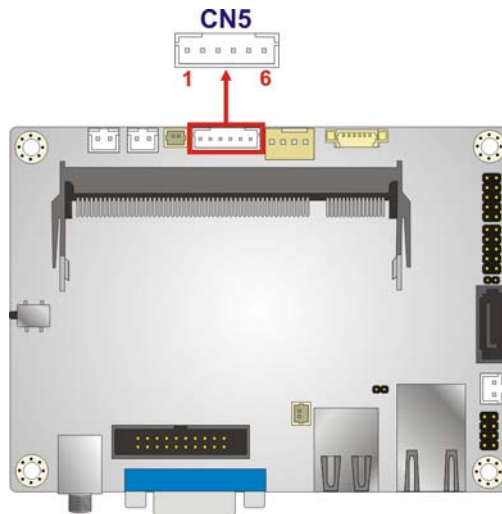

Figure 3-12: Front Panel Connector Location
- CN Location: See **Figure 3-12**